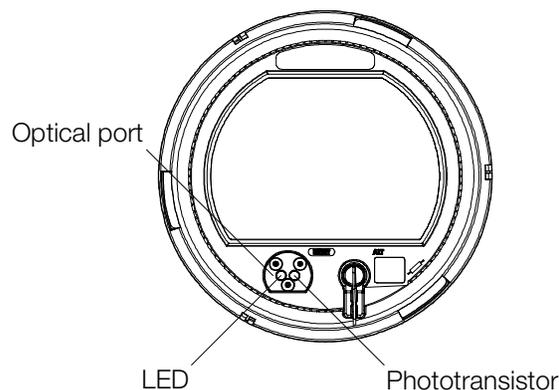

Figure 6-4. Location of the optical port and LED pulse output
- Place the meter in test mode and then position the infrared pick–up head over the optical port to detect the pulse output. Alternatively, the infrared pick–up head could be connected to a test pulse adapter, and that adapter can be positioned over the optical port on the meter. See Figure 6-4 for the location of the optical port on the A3 ALPHA meter.